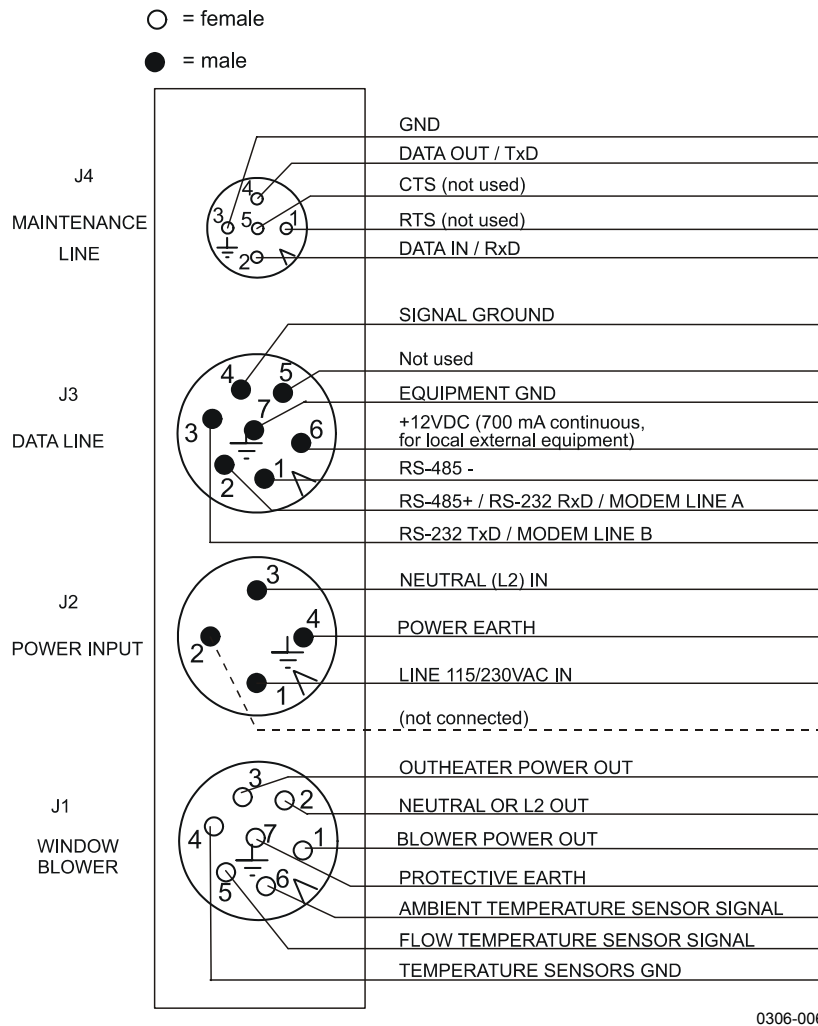

Figure 7 External Connectors (Bottom View)
1. Remove the measurement unit from the shield. To do this, loosen the three attachment screws (marked A in Figure 5 below), disconnect the blower cable from connector J1 (see Figure 7 on page 25), and pull out the unit.
All external connectors to the measurement unit are located at the bottom front edge as seen from the door direction. Figure 7 below shows the external connectors J1, J2, J3, and J4.
2. Plug in the line supply cable to connector J2 (for location, see Figure 7 on page 25) after checking the voltage of the power supply cable connector.